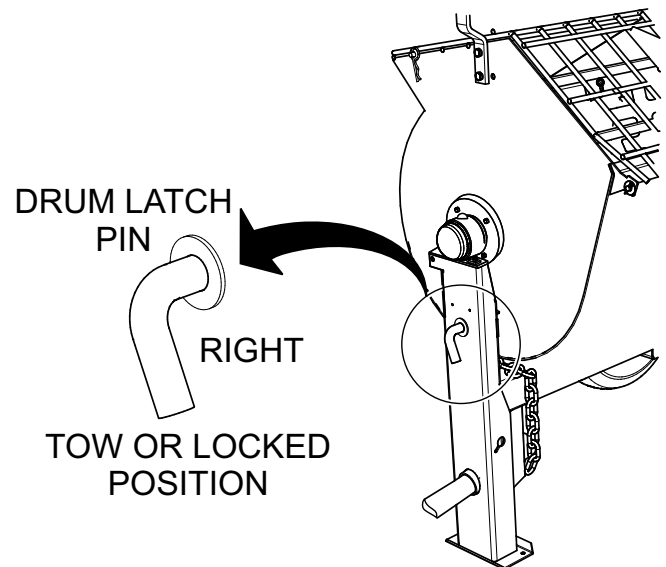

Figure 32. Drum Lock Pin (Locked Position)
2. When transporting of the mixer is require, make sure the drum is empty and the drum lock pin (Figure 32) is placed in the locked position.